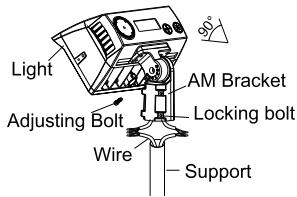
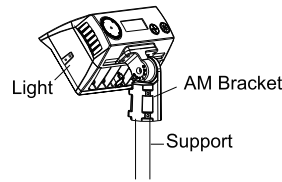

Fig. 1
Fig. 2
- 2.) Connect the input wires coming out of the mounting bracket to the power supply wires in the support/pole according to the wiring diagram above (**Fig. 1**).
- 3.) Place the wires into the support/pole and slide the mounting onto it. Secure it by tightening the four (4) locking bolts.
- 4.) Loosen the adjusting bolt in the center of the mounting and adjust it to the desired angle. Retighten the bolt to secure it in place (**Fig. 2**).